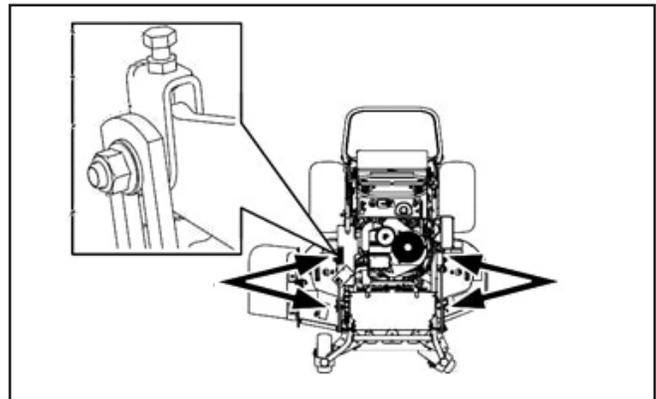

Figure 36
6. Verify deck is level from front to rear by measuring at the blade tips (Figure 36).